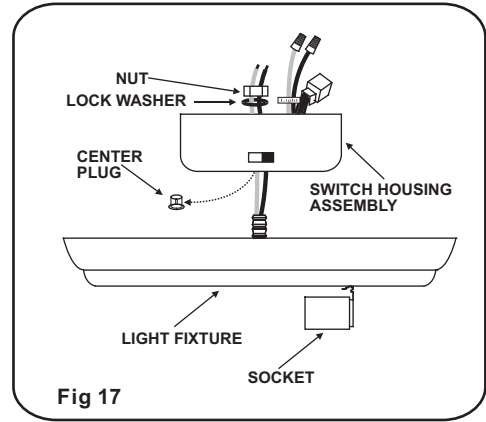

Fig 17
Step 1. Remove and discard the center plug from the switch cup. (Fig. 17)
Step 2. Feed the BLACK and WHITE wires from the light kit through the center hole of the switch cup. Thread the switch cup to the nipple on the light kit. (Fig. 17) Make sure the light kit is securely attached to the switch cup to prevent it from vibrating loose during fan operation.
Step 4. Locate the WHITE and BLUE wires in the switch cup labeled "LIGHT", remove the wire nuts attached to these wires. (Fig. 17)
Step 5. Proceed to make the wire connections as follows; Connect the WHITE wire from the switch cup to the WHITE wire from the light kit, secure the connection with a wire nut previously removed. Follow the same procedure for the BLUE wire from switch cup and BLACK wire from light kit. You may wrap the connections with electrical tape for added safety. (Fig. 17)